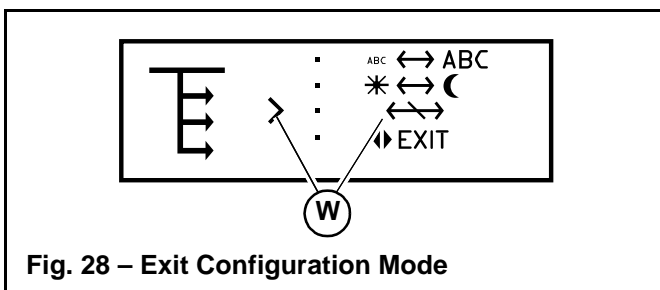

Fig. 28 – Exit Configuration Mode
4. Press and release the interface button until the selection caret points to the “EXIT” selection (W, Fig 28). Press and hold the interface button for 5 seconds. The currently selected control sensitivity is now activated.
- Press and release the interface button until the selection caret points to the “EXIT” selection (W, Fig 28). Press and hold the interface button for 5 seconds. The travel speed limit option is now activated.